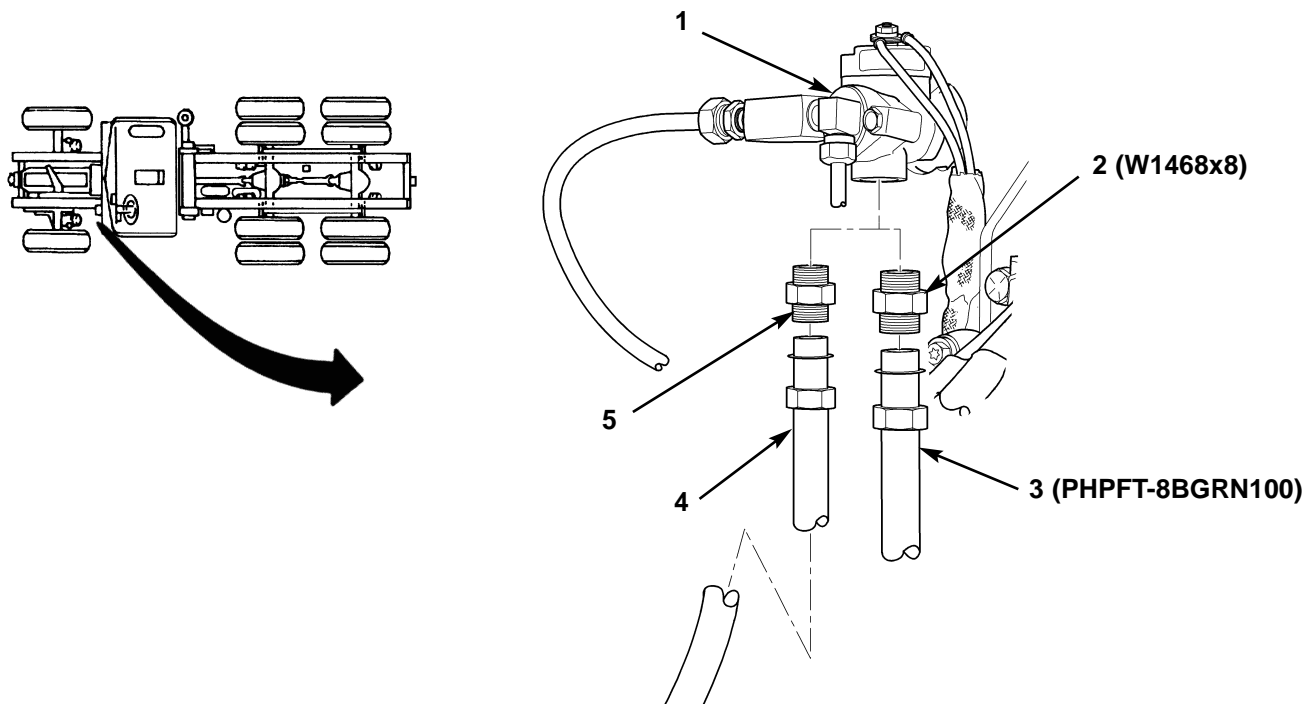
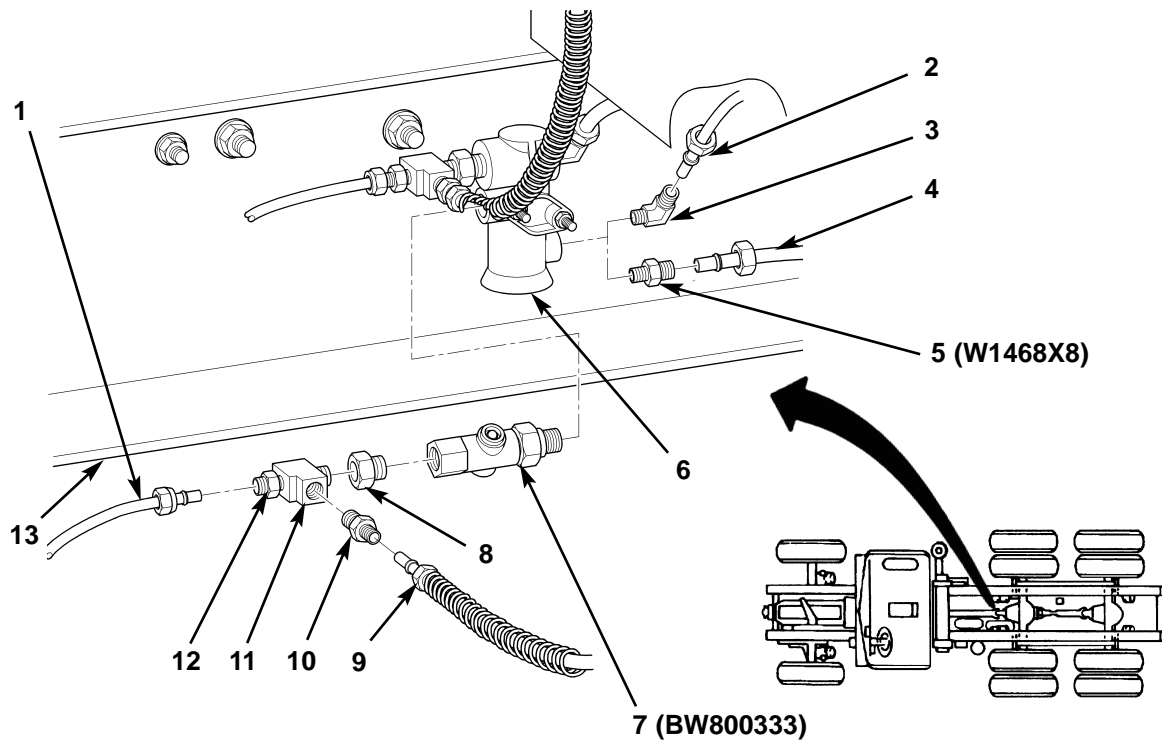

Figure 62. Replacing Tube Between Double Check and Protection Valves.
Figure 63. Installing Quick-Release Valve on Protection Valve.
51. Cut and remove piece of tube (figure 62, item 4) from adapter (figure 62, item 5), and remove adapter (figure 62, item 5) from double check valve/stoplight switch (figure 62, item 1). Discard tube (figure 62, item 4).
52. Install new adapter (figure 62, item 2) on double check valve/stoplight switch (figure 62, item 1).
53. Cut and route 112 in. (284.5 cm) new piece of 1/2 in. (13 mm) blue tubing (figure 62, item 3) under truck cab and along left frame rail to tractor protection valve (figure 63, item 6), and connect end of tube (figure 62, item 3) to adapter (figure 62, item 2) on double check valve/stoplight switch (figure 62, item 1).
54. Cut and remove piece of tube (figure 63, item 2) from elbow (figure 63, item 3), and remove elbow (figure 63, item 3) from tractor protection valve (figure 63, item 6). Discard tube (figure 63, item 2).
55. Install new adapter (figure 63, item 5) on tractor protection valve (figure 62, item 6).
56. Route 1/2 in. (13 mm) blue tube (figure 63, item 4) along left frame rail (figure 63, item 13), and connect end of blue tube (figure 63, item 4) to adapter (figure 63, item 5) on tractor protection valve (figure 63, item 6). Secure tube (figure 63, item 4) with tie straps.
57. Disconnect trailer brake tube (figure 63, item 9) from adapter (figure 63, item 10), and remove adapter (figure 63, item 10) from tee (figure 63, item 11).
58. Disconnect tube (figure 63, item 1) from adapter (figure 63, item 12), and remove tee (figure 63, item 11) from reducer bushing (figure 63, item 8) and reducer bushing (figure 63, item 8) from tractor protection valve (figure 63, item 6).
59. Install new quick-release valve (figure 63, item 7) on tractor protection valve (figure 63, item 6), and install reducer bushing (figure 63, item 8) and tee (figure 63, item 11) on quick-release valve (figure 63, item 7) as shown.
60. Connect tube (figure 63, item 1) to adapter (figure 63, item 12) at quick-release valve (figure 63, item 7).
61. Install adapter (figure 63, item 10) on tee (figure 63, item 11), and connect trailer brake tube (figure 63, item 9) to adapter (figure 63, item 10).